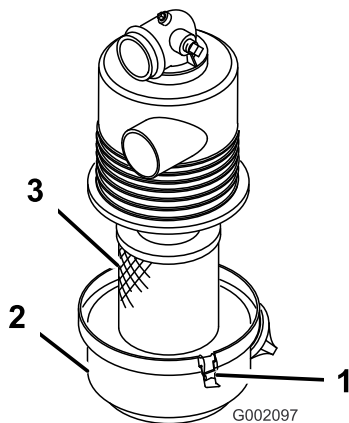

Figure 13
1. Check the air cleaner body for damage, which could possibly cause an air leak. Ensure the cover is sealing around the air cleaner body (Figure 13).
2. Release the latches securing the air-filter cover to the air-filter housing (Figure 13).
3. Separate the air-filter cover from the air-filter housing, and clean the inside of the cover (Figure 13).
3. Insert the air-filter element into air-filter housing (Figure 13).
4. Align the air-cleaner cover with the air-cleaner housing (Figure 13).